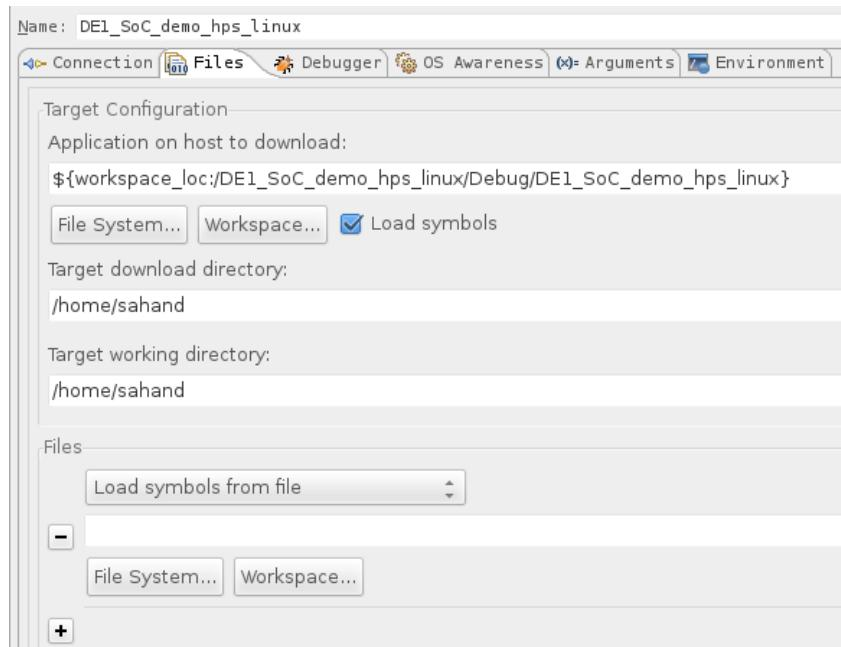

Figure 13-20. Debug Configuration "Files" Tab
- c. Set the “Target working directory” to your user directory. In my case it is “/home/sahand”. You should have something similar to Figure 13-20.